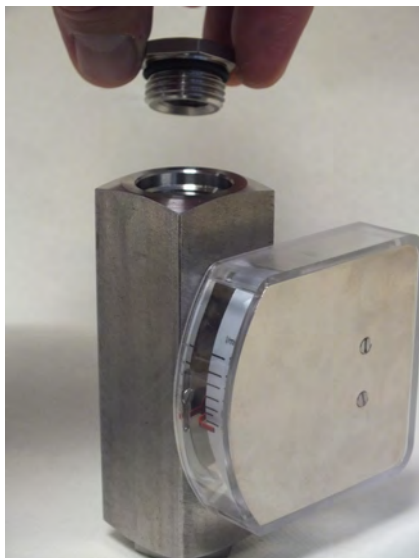

Fig. 43: Remove the process connection (outlet)
7. ➤ Unscrew the process connection (outlet) from the device body (Fig. 43). If necessary, remove the O-ring from the process connection.